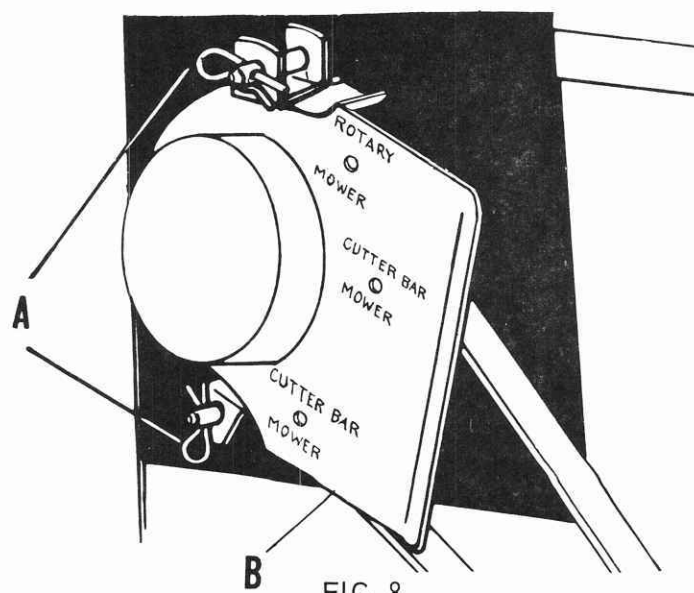

FIG. 8
14. If your tractor is equipped with a belt guard over engine pulley as shown in Fig. 8, remove spring retainers (A), holding belt guard (B), on pins attached to engine. Remove belt guard from tractor.